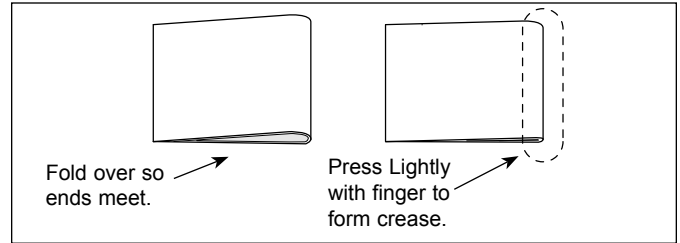

Figure 7. Folding Release Sheet
2. Lay a new Release Sheet on a clean, dry surface and fold it in half lengthwise and gently crease it at the fold using only your fingers (Figure 7).